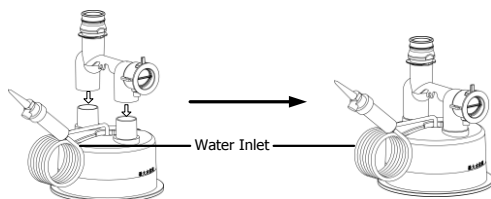

Fig. 11-6
(1) **Install adapter:** Install adapters on two vertical interfaces of water chamber according to the direction shown in the figure and press them tightly with force, as shown in the Fig. 11-6.
**Note:** Before installing the adapter, place the water inlet in the position shown in Fig. 11-6 to ensure that the water inlet can be fixed in the slot of the cover after installing the water chamber.